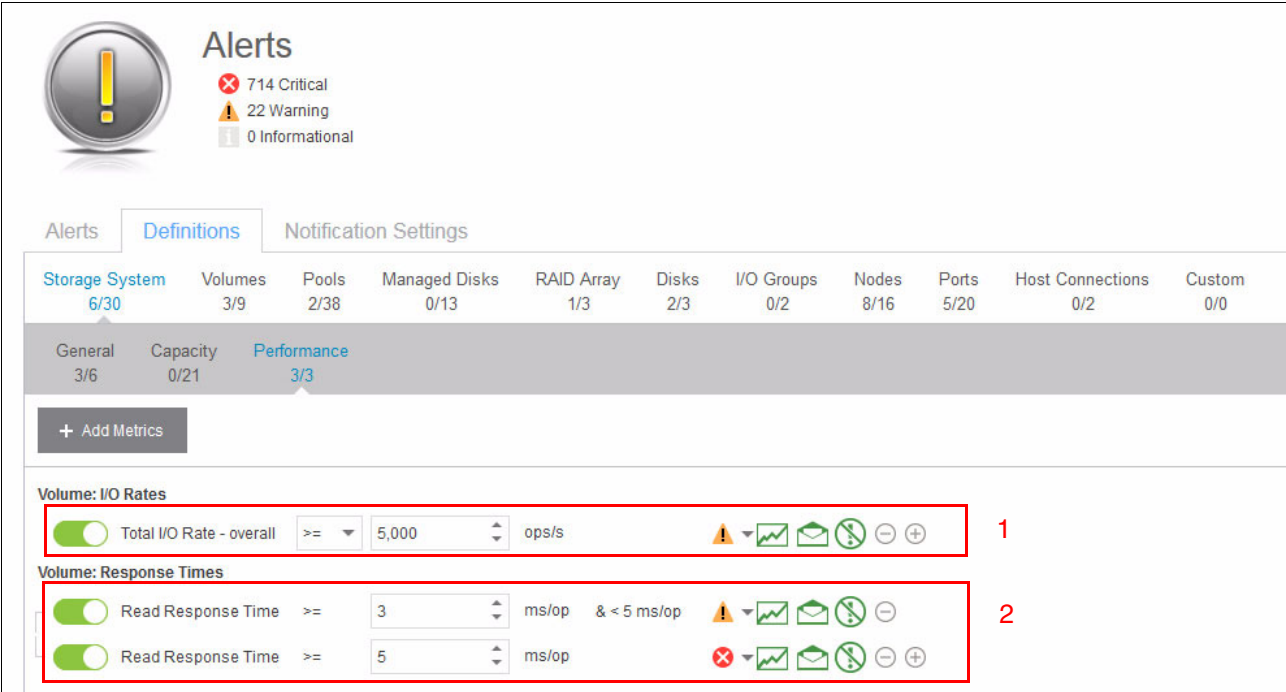

Figure 3-2 Performance Thresholds
In addition to maximum or minimum threshold values (1), threshold ranges with different severities can be defined (2), as shown in Figure 3-2.